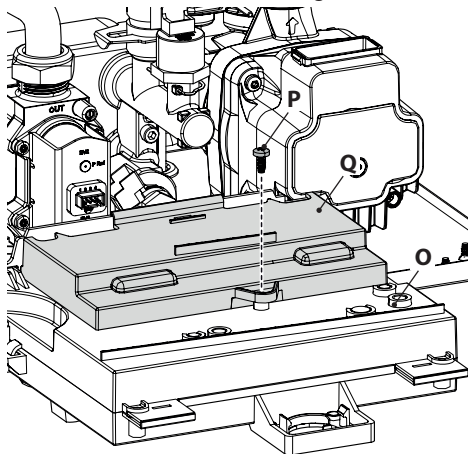

Figure 5.20
- Unscrew the screw **P** and lift the cover **Q** to access the electric power supply terminal block, remote and external sensor (Figure 5.20).